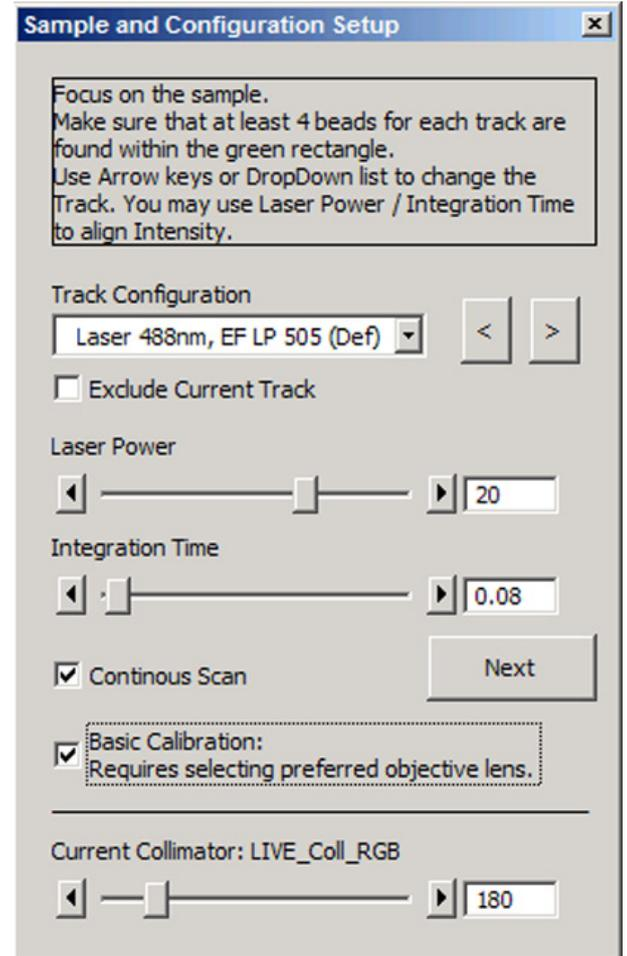

Fig. 4-176 Figure Sample and Configuration Setup Window of the Kollimatic Macro
- In Fig. 4-176, the **Basic Calibration** has been selected (Check box **Basic Calibration: Requires selecting preferred objective lens**), therefore some more tracks are available